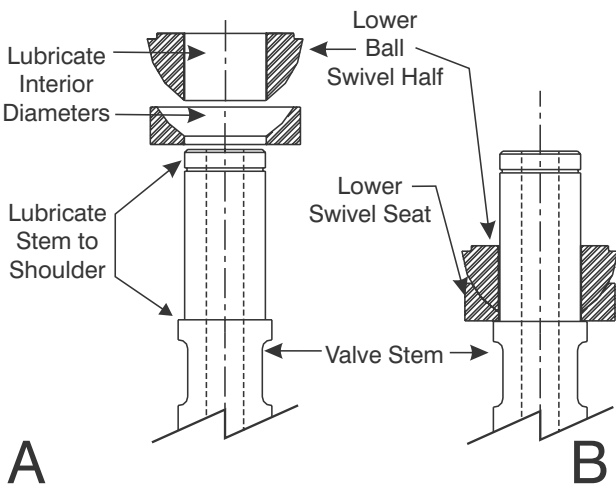

Figure 9-9. Install lower Swivel Seat and Ball Swivel Half.
1. Collect the Valve (7), Ball Swivel (6) and Swivel Seat (5) components, the Wave Washer (4) and Retaining Ring (3) on a clean, flat work bench.
2. Position the Valve Stem (8) vertically with the threaded end down, and clamp it in a padded vice.
3. Refer to Figure 9-9-A. Lightly lubricate the upper end of the Valve Stem and the internal bore of the Lower Ball Swivel half and Lower Swivel Seat.
4. Slide the lower Swivel Seat (5) onto the Stem until it seats against the upper shoulder, as shown in Figure 9-9-B.
5. Slide the lower Ball Swivel (4) half onto the Stem until it seats against the upper shoulder, as shown in Figure 9-9-B.